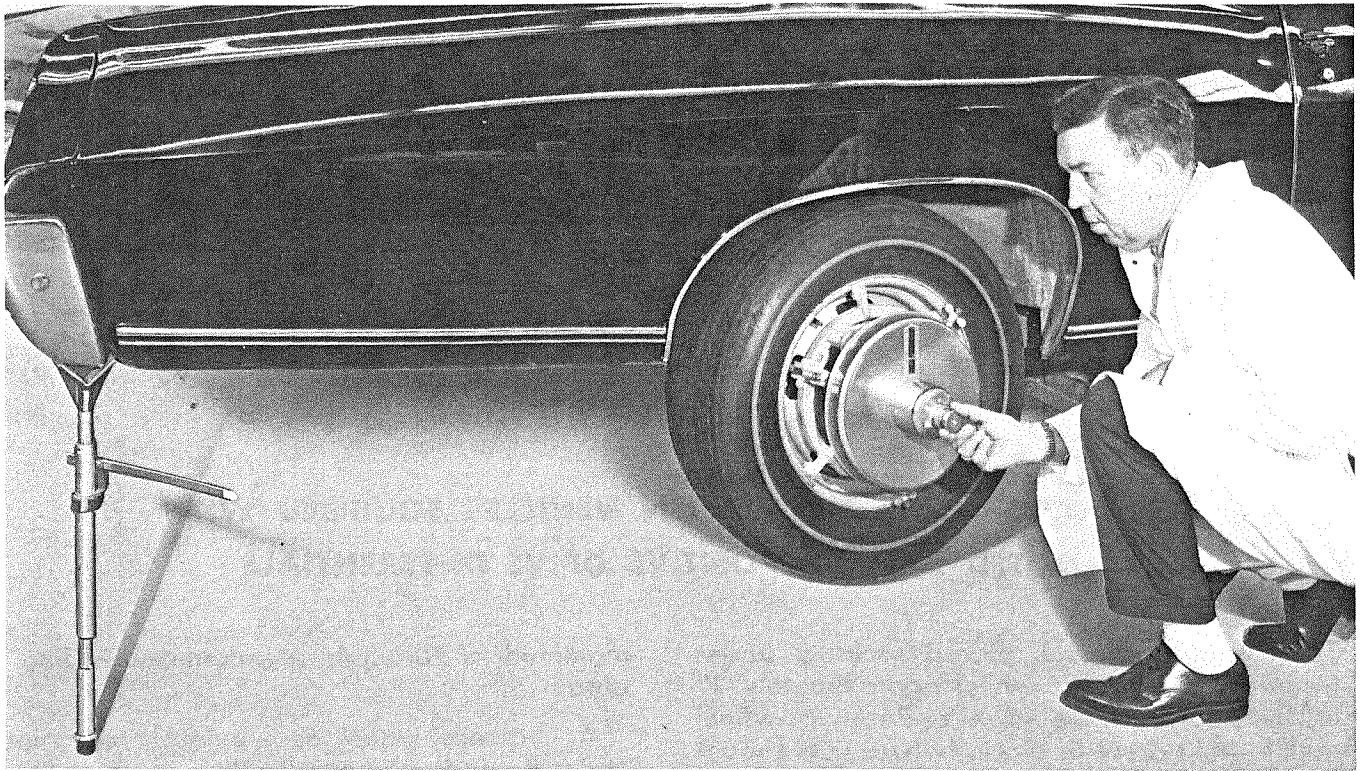

Fig. 7
2. Install jiggle under rear bumper or bumper bracket. Fig. 7, adjust height so pointer is in a horizontal position.
5. Balance wheel, Fig. 7, as previously described under Balancing Front Wheel.